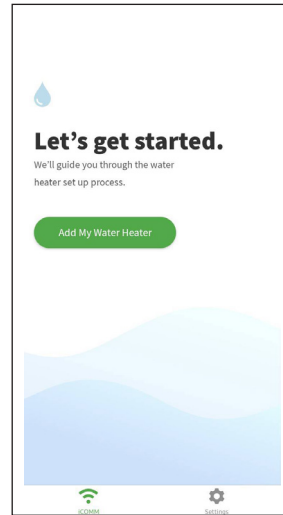

Figure 137 - Add My Water Heater
- 1 Select “Add My Water Heater” from the *Let’s Get Started* screen (Figure 137).